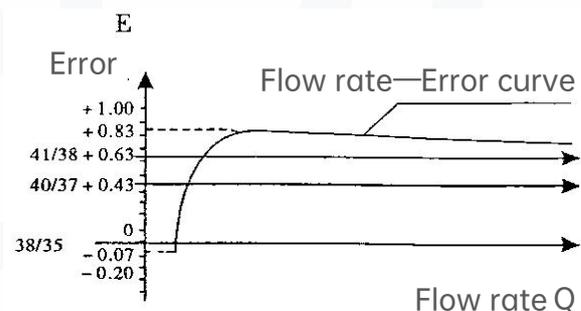

Figure 2
2. flowmeter in use, due to different working conditions and changes, the error often changes, may be out of tolerance, as long as the error range does not exceed 1%, generally can be adjusted to qualified, such as the instrument error drops to -0.7 ~ +0.2, and need to replace the double-layer gear, first should see how many teeth of the double-layer gear, if 38/35 is adjusted according to (1) method, If it is 41/38 gear, the corresponding error +0.63 of the gear should be taken as zero (that is, the coordinate origin), then the 41/38 gear should be replaced with 40/37 double-layer gear, and the error can be adjusted to the range of -0.5 ~ +0.4 to ensure conformity (see Figure 2).